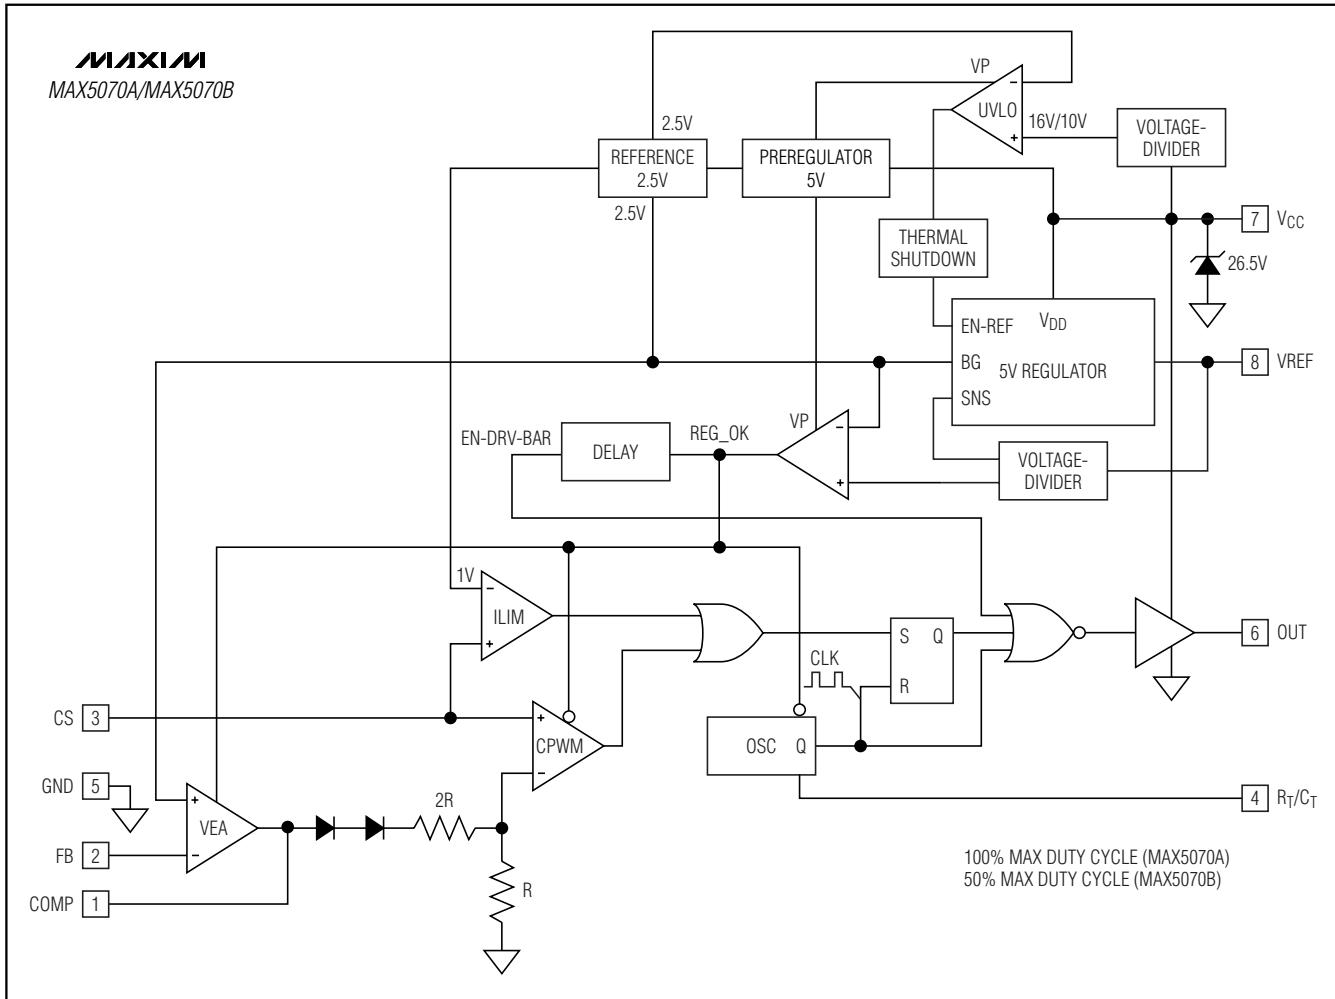

Figure 1. MAX5070A/MAX5070B Functional Diagram
versions with a feedback input (FB) and internal error amplifier. The MAX5071A/MAX5071B include bidirectional synchronization (SYNC). This enables multiple MAX5071A/MAX5071Bs to be connected and synchronized to the device with the highest frequency. The MAX5071C includes an ADV_CLK output, which precedes the MAX5071C's drive output (OUT) by 110ns. Figures 1, 2, and 3 show the internal functional diagrams of the MAX5070A/MAX5070B, MAX5071A/MAX5071B, and MAX5071C, respectively. The MAX5070A/MAX5071A are capable of 100% maximum duty cycle. The MAX5070B/MAX5071B/MAX5071C are designed to limit the maximum duty cycle to 50%.